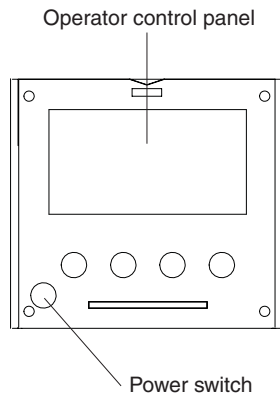

Figure 12. Power switch
3. Press the power switch (see Figure 12 on page 14).